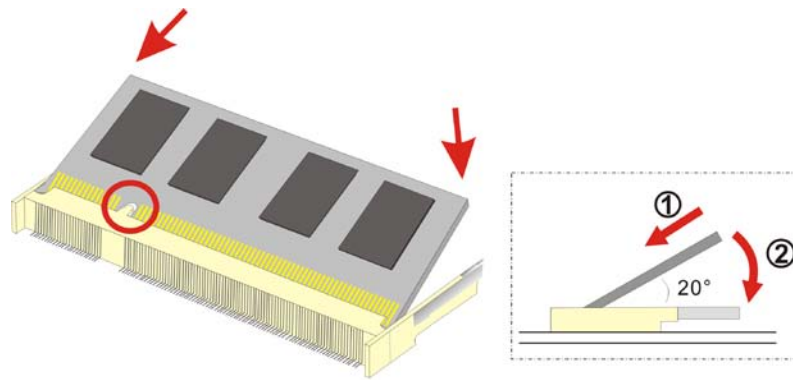

Figure 6-4: DDR SO-DIMM Module Installation
- Step 8:** Install the new DDR3 memory module by pushing it into the socket at an angle (**Figure 6-4**).
- Step 9:** Gently pull the spring retainer clips of the SO-DIMM socket out and push the rear of the DDR memory module down (**Figure 6-4**).